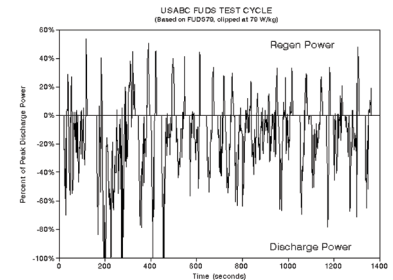

FIGURE 15
It is common to perform several tests on the same battery. For example, EV batteries are tested using multiple test profiles (Fig. 15) to ensure they meet performance expectations for differing use patterns and international standards. Some EV test profiles include FUDS (US), US06 (USA), WLDC (EU), NEDC (EU), CLTC (CN), JC08 (JP).